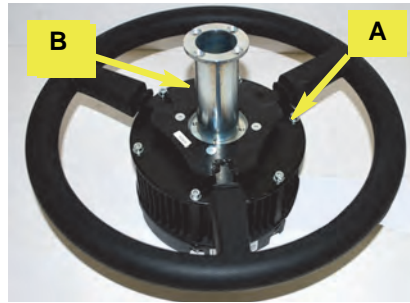

Figure 1a: Installing the shaft adapter
- a. Place the VSi steering wheel **A** on a clean surface with the wheel facing up. Insert shaft adapter **B** into steering wheel **A** (Figure 1a).